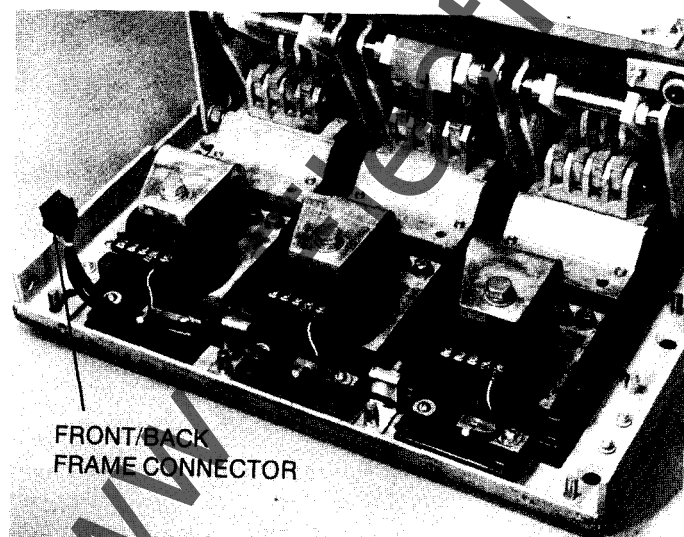
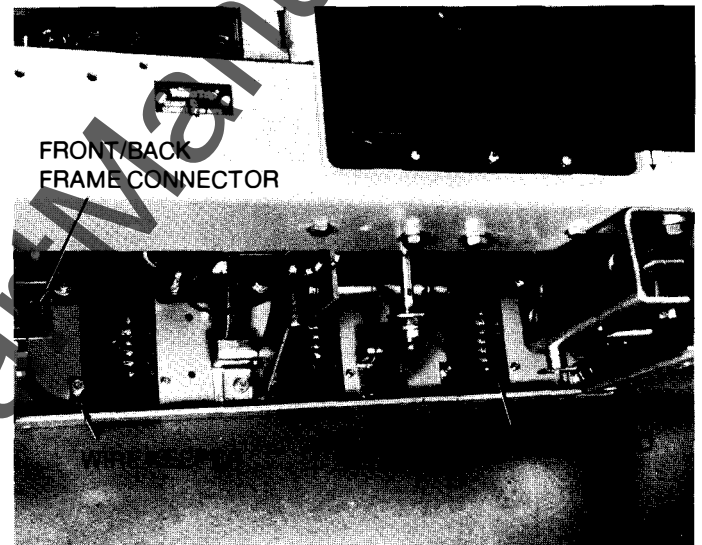

Fig. 3-4. MicroVersaTrip® RMS- 9 phase sensors and harness installed — AK/AKS-50
Fig. 3-7. Back frame harness installation — AK/AKR-75/100
3. Install MicroVersaTrip® RMS- 9 phase sensor. Secure sensor to lower adaptor with RTV or equivalent adhesive. Install upper adaptor connector (See Fig. 3-4).
2. Install as shown in Fig. 3-4.
Install the back frame harness as shown in Fig. 3-4 or Fig. 3-7. Wire ties used to form and secure the harness are provided.